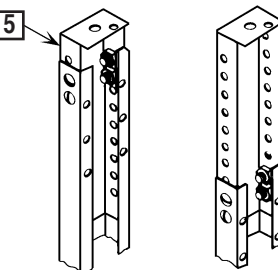

FIGURE 7
4. Insert adjustable foot (item 5) into leg so that the holes in the sides of the foot are aligned with the holes in the sides of the leg. At the desired height, fasten foot to leg with (4) screws and nuts (Items 6 & 7) as provided. See Figure 7. Repeat procedure for the other three legs.